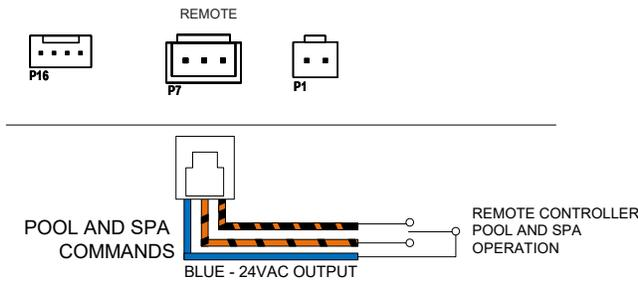

Figure 57. 3-Wire Remote Harness Installation
5. On the 3-wire remote interface harness, connect the BLUE wire to one side of the remote automation controller and connect the ORANGE/BLACK wire for "SPA" operation and the BLACK/ORANGE wire for the "POOL" operation. See Figure 57.
6. Install the 3-wire remote interface harness to the "P7" connector and turn power ON to the heater. See Figure 57.
10. For 3-wire control, connect the BLUE wire to one side of the remote controller and connect the ORANGE/BLACK wire for "SPA" operation and the BLACK/ORANGE wire for the "POOL" operation. See Figure 57.